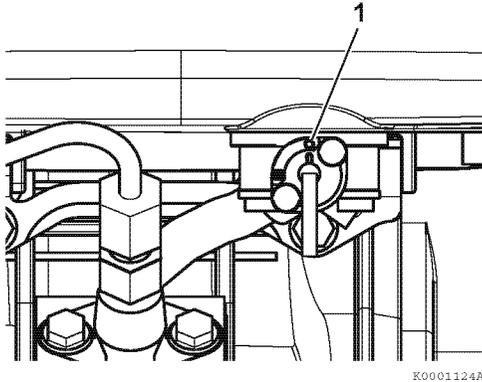

Figure 5
2. Make sure the fuel cock is in the ON position (1, Figure 5).